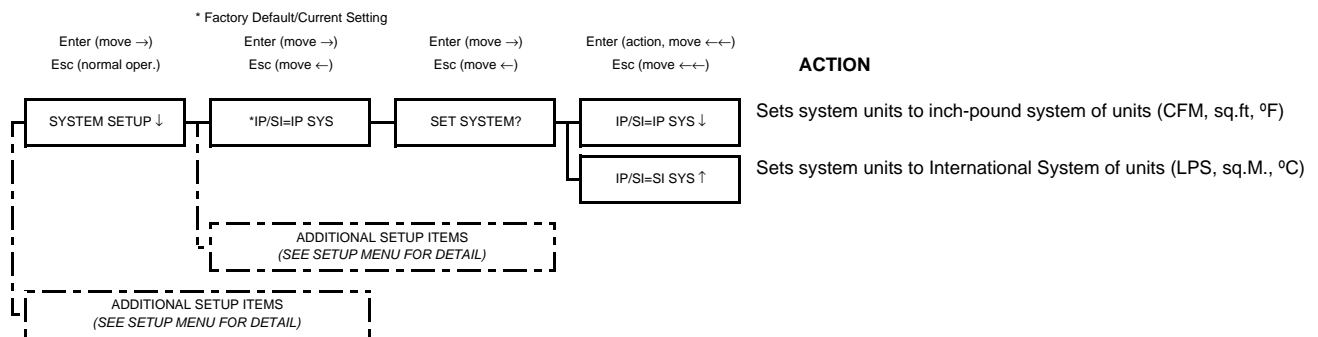

Figure 9. System of Units Menu
The GF-1200-A transmitter is shipped with the system of units set to US inch-pound units (IP), and will display units of measure as shown in the IP column of Table 2. To change to standard international (SI) units, simultaneously press and release the “UP” and “DOWN” arrow pushbuttons during normal operation to enter the SETUP menu. Then, using the ENTER button navigate into the SYSTEM SETUP menu. Figure 9 shows the System of Units sub-menu. Press "ENTER" to proceed to the right (three times), and then use the "UP" and "DOWN" arrow buttons to select the system of units desired. Press the “ENTER” button to save the changes, and then press “ESC” twice to move left and return to normal operating mode. Note that the Setup Menu is shown in IP System Of Units. When SI System of Units is selected, the units of measure abbreviations shown in the menus changes as shown in the SI column of Table 2.